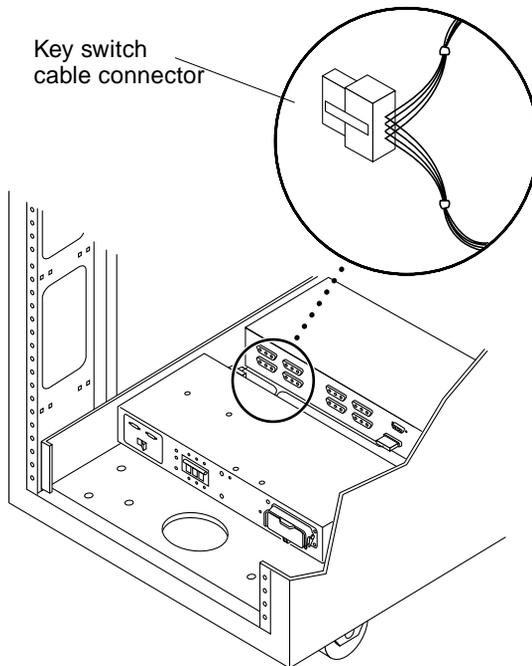

FIGURE 10-1 Removing and Replacing the Key Switch
2. **Disconnect the key switch cable connector from the cable adapter cable connector near the back of the power sequencers (FIGURE 10-1).**
4. **Connect the key switch cable connector to the adapter-cable connector near the back of the power sequencer (FIGURE 10-1).**